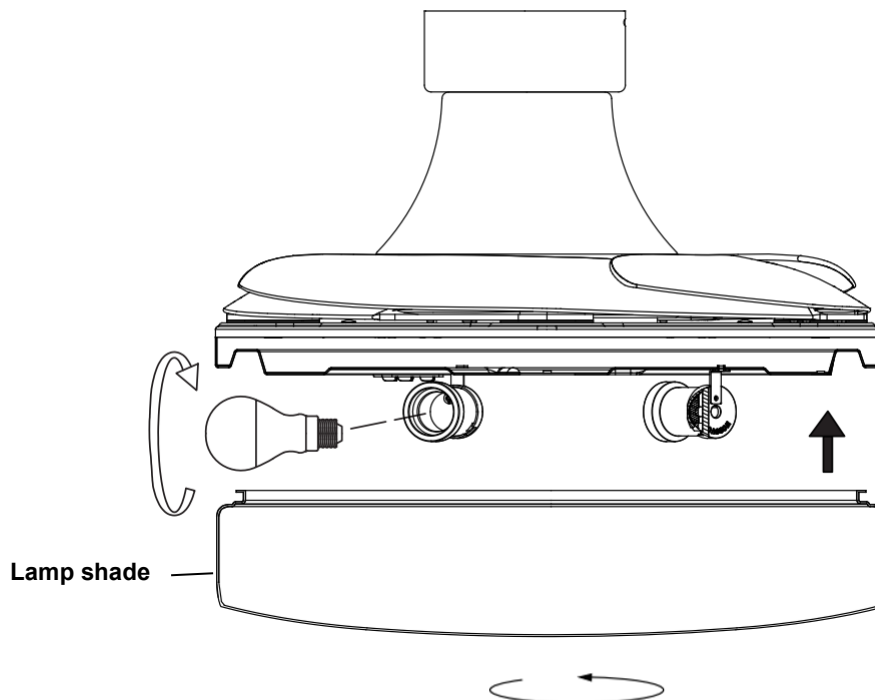

Fig. 11
6. Turn the cover counterclockwise until the slot screws are firmly at the end of the slots (6).
7. Secure screw (6) to the light kit plate cover. Tighten all three screws. Do not over-tighten.
8. Install the globes to the lamp holders. Do not exceed the maximum power rating (**Fig. 11**).